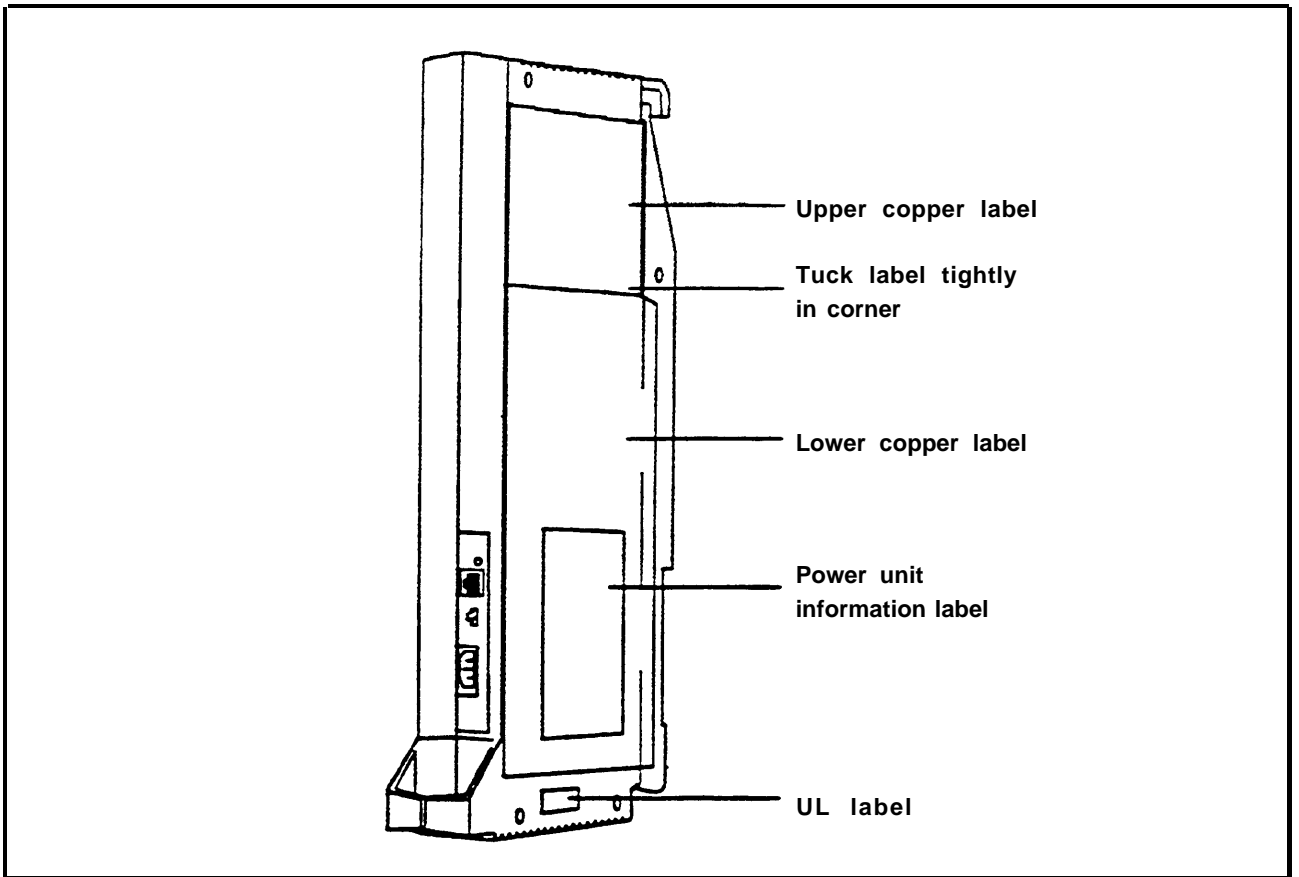

FIGURE 2-18 Proper placement of foil shields and labels on the Power Supply Module.
- 4 Position the foil on the upper part of the module being sure to tuck the foil tightly into the corner as shown in Figure 2-18. Work out any air bubbles as you press the foil firmly in place.
- 6 Position the foil on the lower part of the module as shown in Figure 2-18. Work out any air bubbles as you press the foil firmly in place.
- 7 With the copper-foil shielding in place, place the power unit information label on the lower piece of foil as shown in Figure 2-18.
- 8 Attach the UL label (CSA label as appropriate) on the Power Supply Module below the copper foil in the position shown in Figure 2-18.